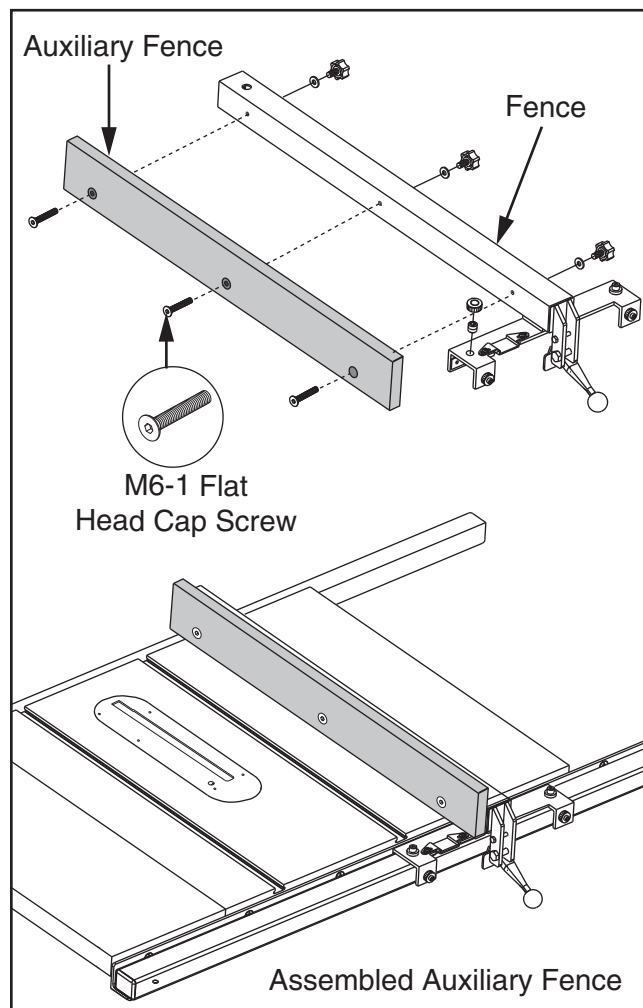
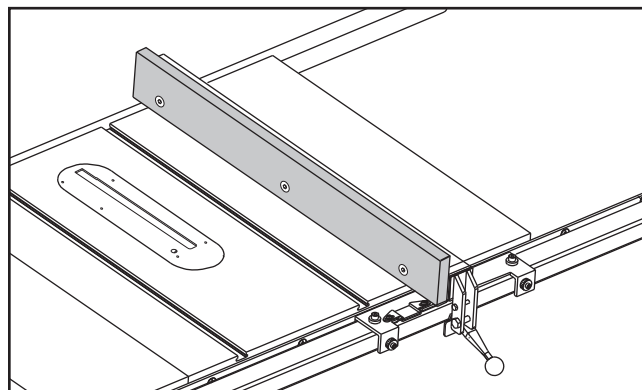

Figure 70. Example of auxiliary fence attached to Model G0833P fence face.
Figure 72. Example auxiliary fence attached to included fence.
The fence should be similar to the one in **Figure 70** when installed.
6. Insert (3) flat head cap screws through holes in auxiliary fence board (see **Figure 70**) and secure with knobs and flat washers removed earlier. The end result should be similar to **Figure 72**.